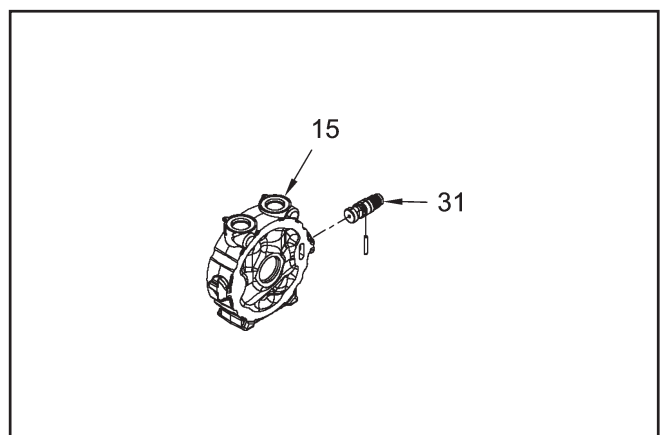

Figure 37
12. Install puck (42) into the port block (15), then install the port block onto the motor shaft (13).
Note: When installing the port block assembly, pull on the cam (31, Fig. 37) to keep the puck (42) from falling out of the port block.